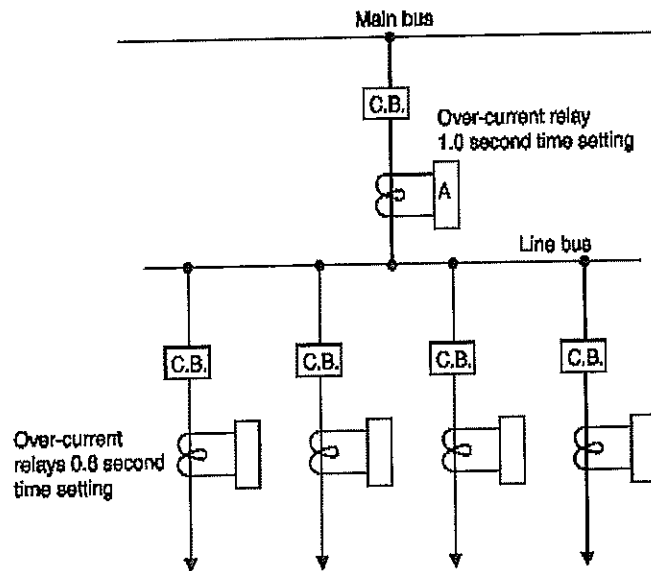

Fig.Q4
- e) Discuss Primary protection and Backup protection with reference to the Fig. Q4 [6]